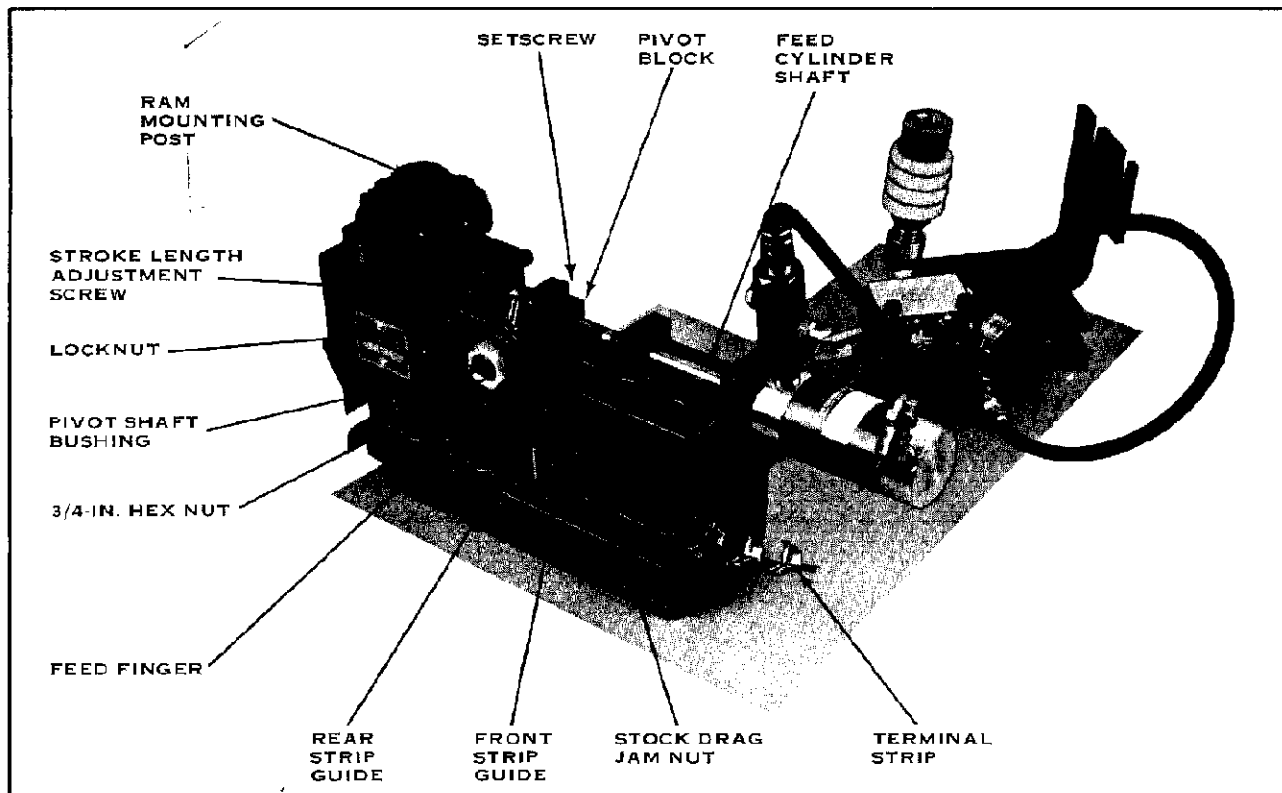

FIGURE 3
5.1. Terminal Strip Feed Adjustment (See Figure 3)
5.2. Strip Guides Adjustment (See Figure 3)
5.3. Stock Drag Adjustment (See Figure 3)